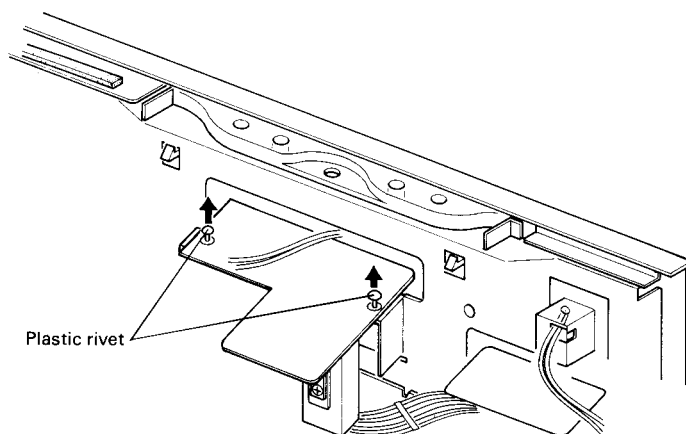

Fig. 3
2. Remove the plastic rivet bushes from the P. C. Board and take out P. C. Board. (Fig. 3)